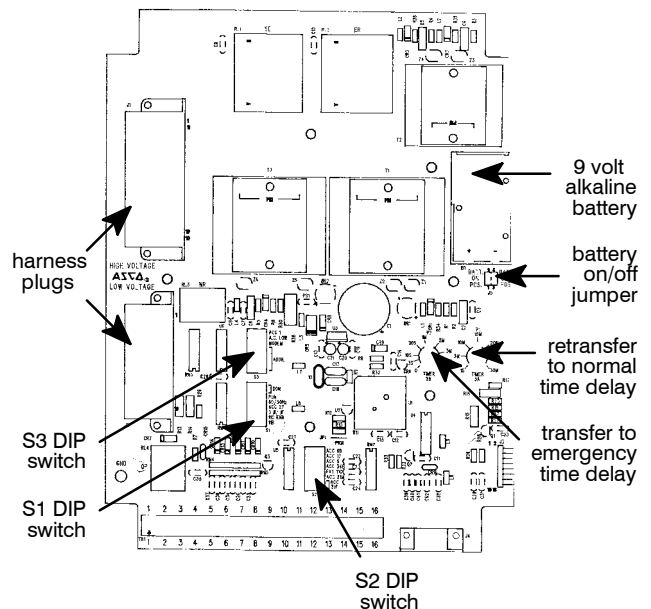
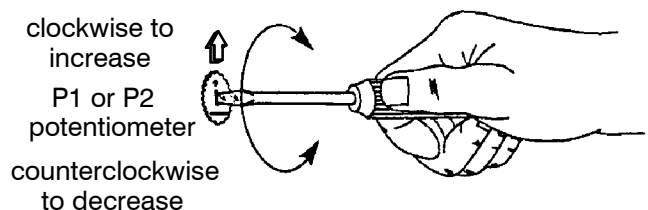
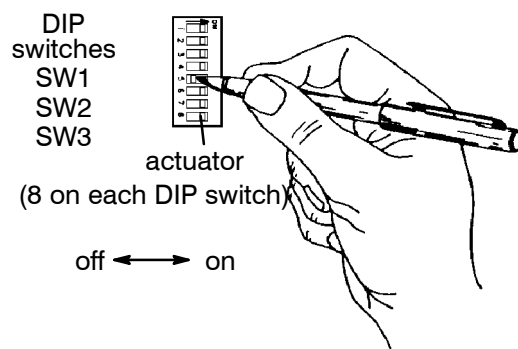

Figure 4-2. Location of potentiometers.
Figure 4-3. Changing time delay potentiometers.
Figure 4-4. Setting DIP switch actuators.
4. Locate the appropriate adjustment potentiometer or DIP switch for the setting that you want to change. Refer to Table 4-1 and Table 4-2 on page 4-1 and Figure 4-2, Figure 4-3, Figure 4-4 on page 4-2.
5. Use a small screwdriver to turn the potentiometer clockwise to increase the time delay or counterclockwise to decrease it. See Figure 4-3.
6. Use a ball-point pen (or similar pointed tool) to slide the switch actuators left or right so they match the illustration next to the setting (left = off, right = on). Recheck the setting. See Figure 4-4.
The engine exerciser included in ASCO Series 300 Automatic Transfer Switches provides a once a week 20-minute exercise period. It occurs immediately when the SET ENGINE EXERCISER push button is pressed (and held for at least 5 seconds), and then at the same time weekly thereafter. A 9 volt alkaline battery (*Duracell®* MN1604, *Everready®* 522, or *Panasonic®* 6AM6) is furnished and installed in the controller to maintain the setting. The battery jumper block must be shifted to the ON position. See Figure 4-2 on page 4-2.